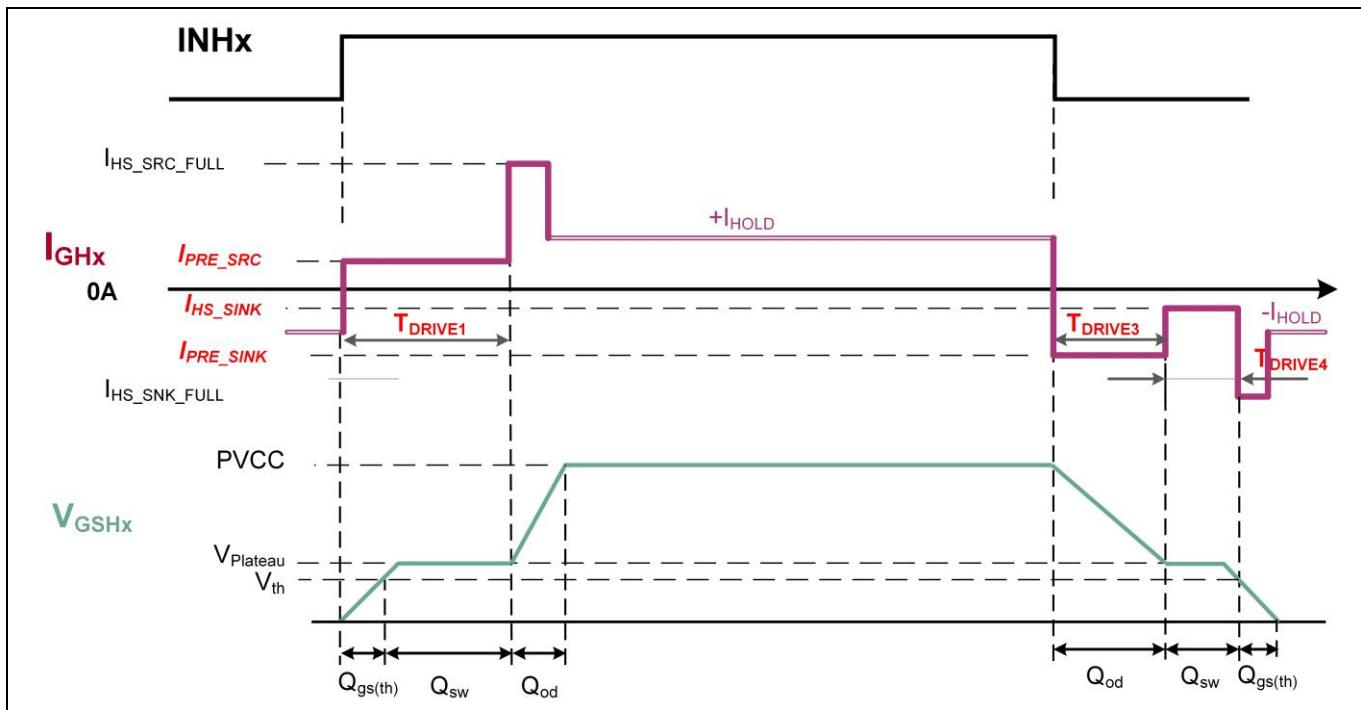

**Figure 28 Detail of MOSFET gate charge during the charging and discharging transitions**
6EDL7141 integrates gate to source comparators. These are used to detect when the  $V_{GS}$  signal is almost at the target value PVCC, i.e.  $V_{GSX} \geq PVCC - V_{GS\_CPM\_TH}$  during charging phase and  $V_{GSX} \leq V_{GS\_CPM\_TH}$  during the discharge phase. When any of these happen, the comparator trips and sets the gate current to  $I_{HOLD}$  value. This is to reduce power consumption and help reducing the impact of the self-turn-on effect, for example when the high side MOSFET is turning on while the low side MOSFET is off. In this case, the hold current in the low side MOSFET will help tightening down the gate of that MOSFET to the source with  $I_{HOLD}$  strength. In Figure 27  $I_{HOLD}$  is shown as dashed and depending on  $V_{GS}$  value will be applied sooner or later. In Figure 28 the thresholds for activating  $I_{HOLD}$  current are shown.
Figure 28 shows a detail of the charging and discharging transitions for a high side MOSFET. Similar applies to a low side MOSFET. The different gate charge areas of the MOSFET are shown. Thanks to the flexible timing structure and the high  $T_{DRIVE}$  resolution, user has full control of the gate current applied during critical charge areas like  $Q_{sw}$  which is the key parameter controlling the MOSFET  $V_{DS}$  slew rate. This at the same time can be done while maintaining fast charging of other areas like  $Q_{od}$  which typically is relatively large compared to  $Q_{sw}$  and therefore, as it does not affect neither  $dV/dt$  nor  $dI/dt$ , can be accelerated by increasing gate current.
**Note:** When the gate to source voltage is getting close to the target voltage, either `PVCC` when charging or `PGND` when discharging, the gate driver will not be able to fully maintain the target  $I_G$  current. This effect deviates from the ideal behavior shown before and can follow similar behavior to the dashed lines in Figure 28. This is independent from the  $I_{HOLD}$  values described before.